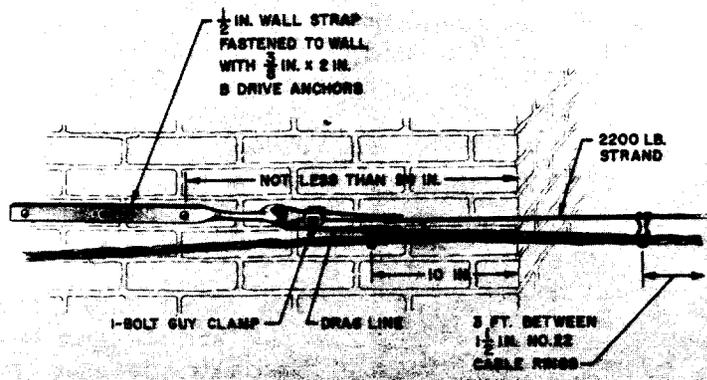

Fig. 13—Span in Line with Wall
9.06 Where span exceeds lengths specified in 9.03 or 9.04, bridle wire may be run in 1 1/2-inch No. 22 cable rings attached to 2200-pound strand. Space cable rings 3 feet apart. Place a drag line in the rings of the crossing span at the time they are attached. The drag line should always be replaced after it has been used for pulling wires across the aerial block wire span. This may be done at the time of pulling in additional wire by attaching a new drag line to the existing line and pulling the new line into the rings at the same time the wire is pulled in. Tie the drag line at the end of the strand. (See Fig. 13, 14, and 15.)